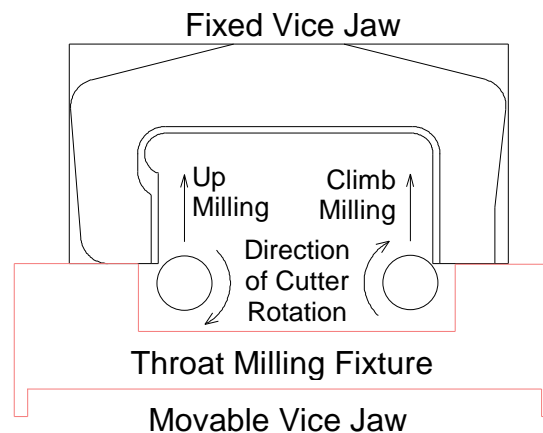

Fig. 4 Throat Milling Set-up & Milling Modes
B. Using the throat milling fixture (see Figure 4) and appropriate parallels, mount the workpiece in a mill vise such that the top of the workpiece protrudes above the vise's fixed jaw approximately 1/8".
E. Rough machine the throat opening, feeding the cutter in the conventional (up-milling) mode (see Figure 4), traversing around the throat surfaces in a clockwise direction.
- F. Semi-finish machine the throat opening, feeding the cutter in the **opposite** direction, in the **climb** (down-milling) mode (See Figure 4), traversing around the throat surfaces in a counter-clockwise direction.